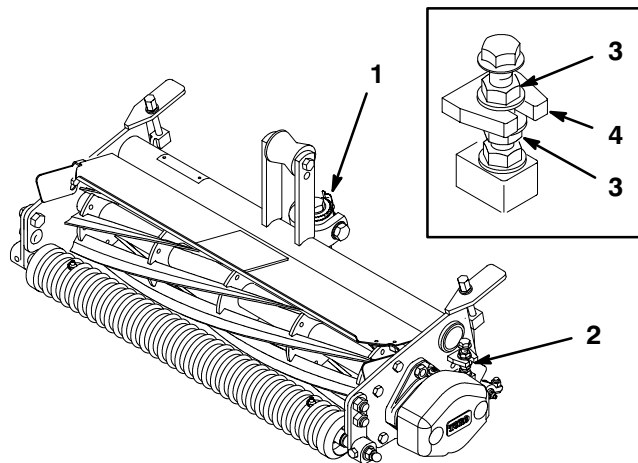

Figure 2
2. Make sure reel contact is removed by turning bedknife adjustment knob counterclockwise (Fig. 2).
4. Loosen locknuts retaining the left-hand bedbar pivot housing (Fig. 2).
5. Rotate flange nuts (Fig. 2, inset), on top and bottom of frame tab, clockwise or counterclockwise to raise or lower end of bedbar, as required. Do not loosen bottom flange nut. Tighten flangenuts against frame tab when desired adjustment is attained.